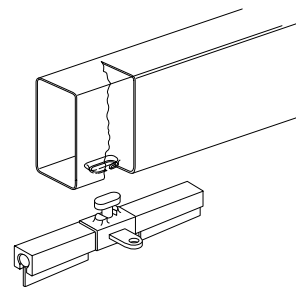

Fig. 3.53 — Adapter Clamp for Conventional Anchoring System
**Notice:** Use Kent Moore Tools Frame Adapter Clamp (P/N J42058) to secure the vehicle if pulling and straightening is required (Fig. 3.53).